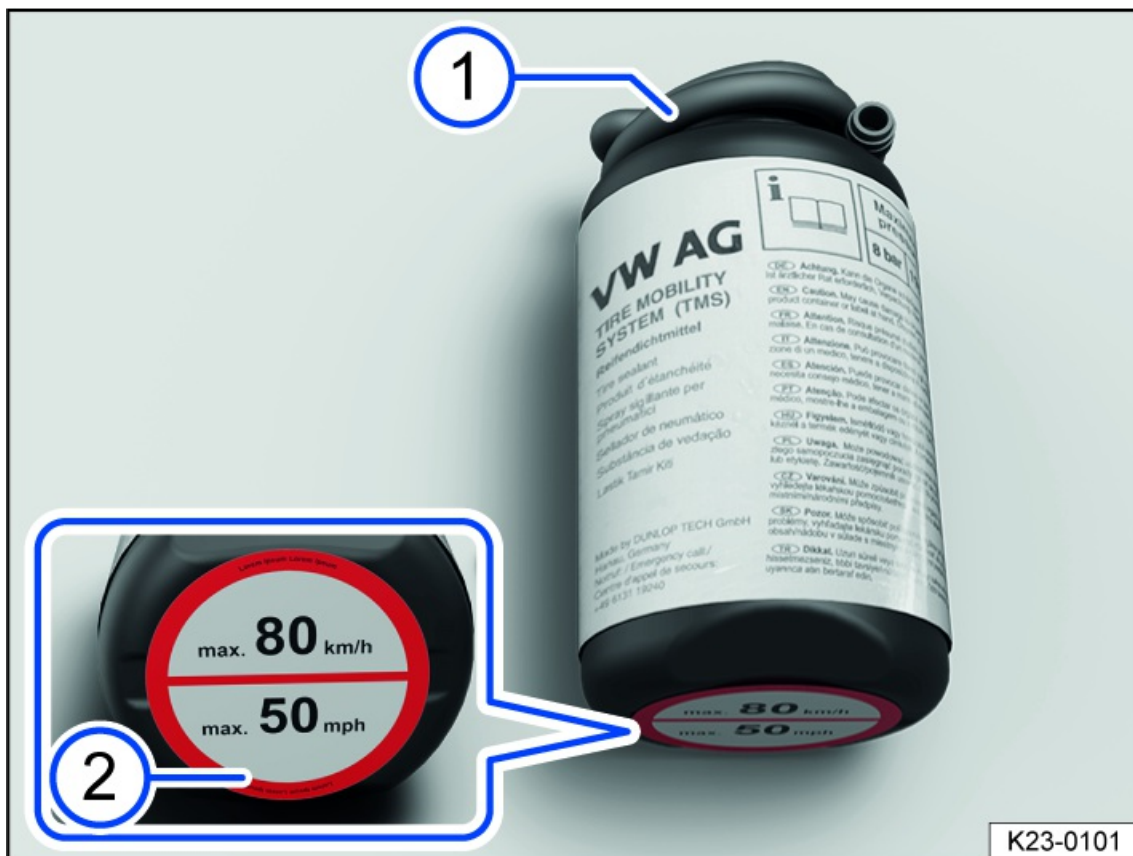
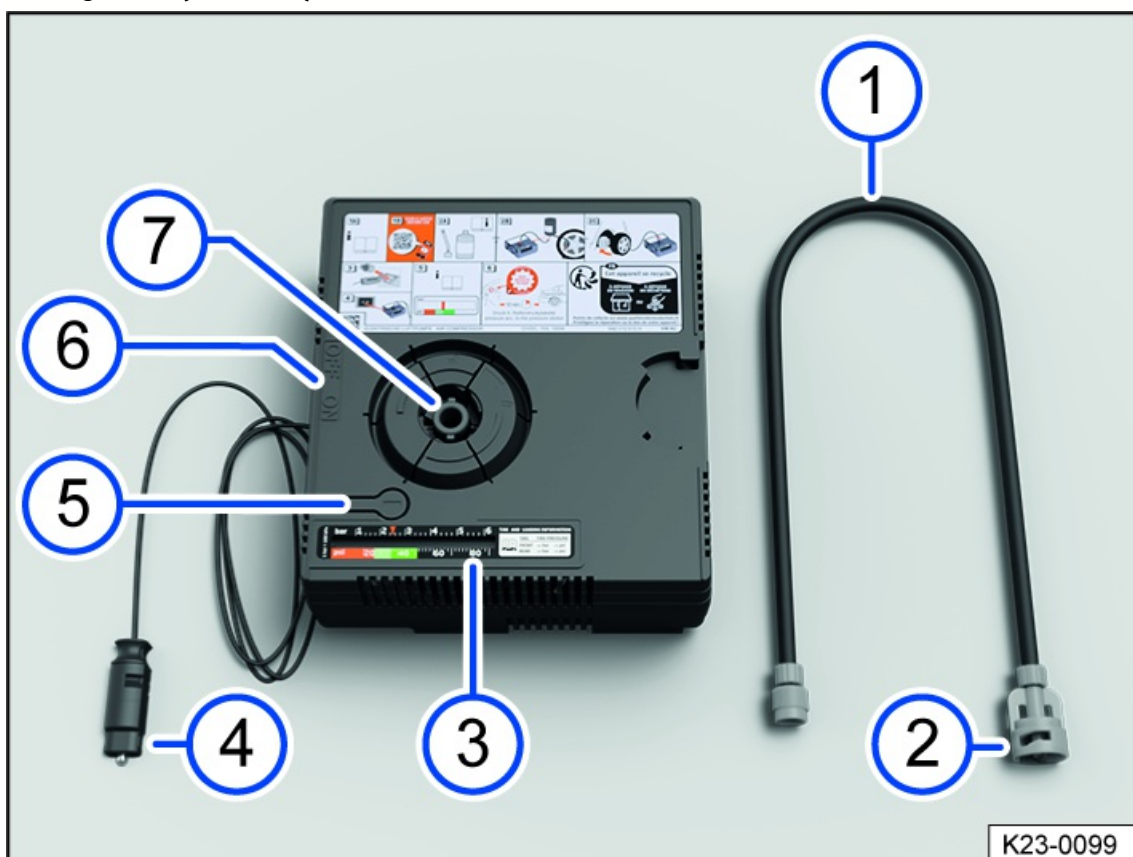
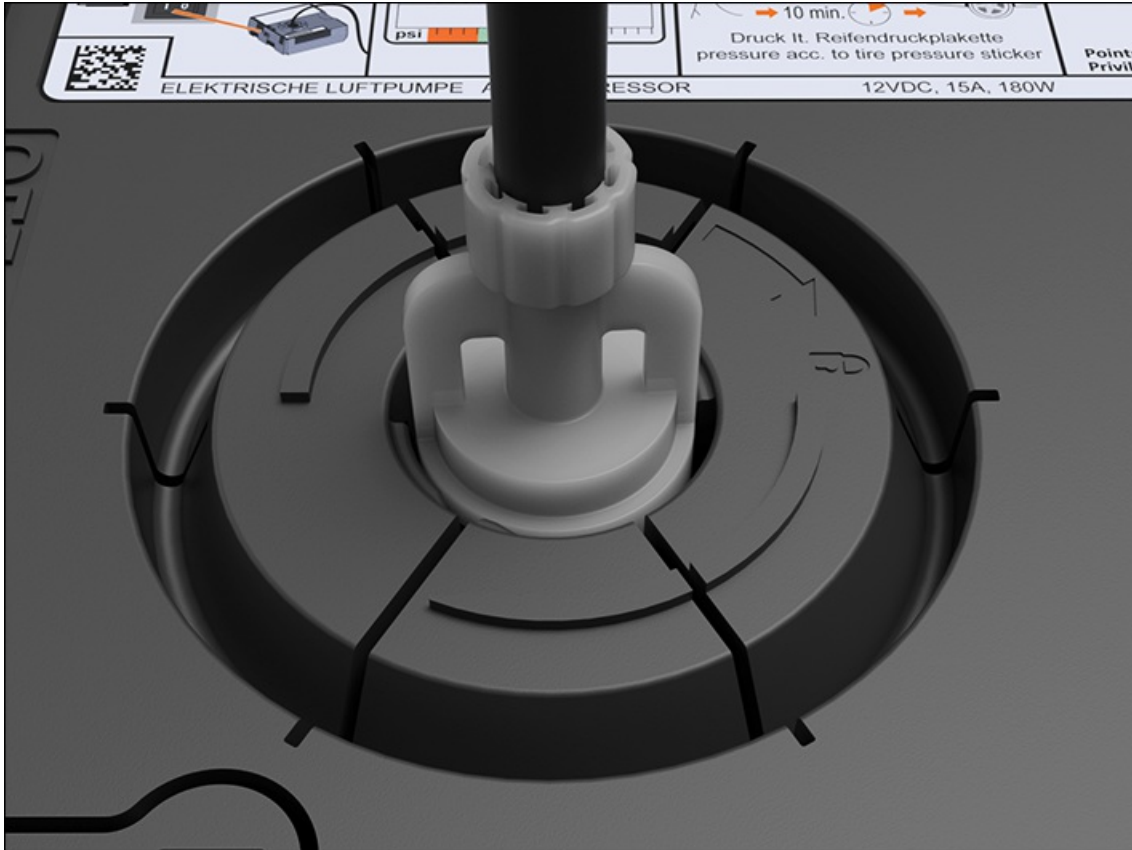
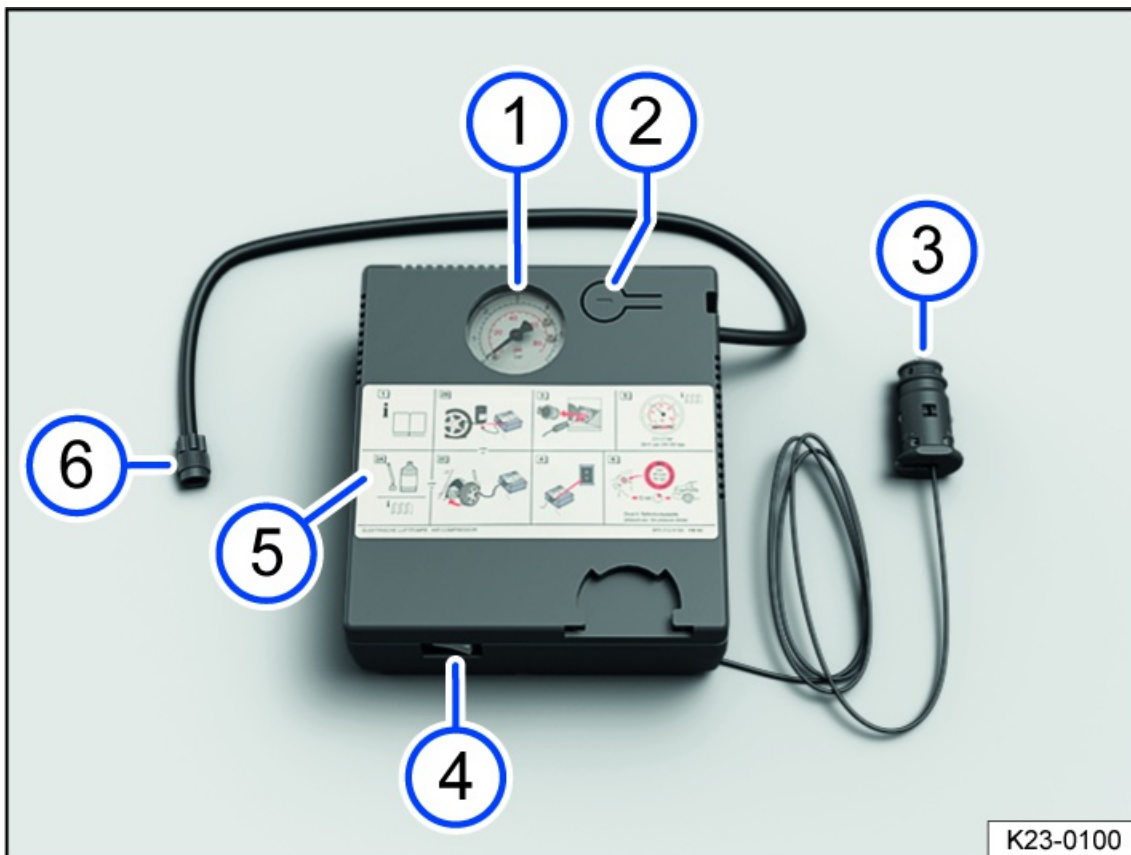

Fig. 188 Tire filler bottle
Fig. 189 Compressor in the tire mobility set (general example).
Fig. 190 Attach the tire inflation hose.
Fig. 191 Compressor in the tire mobility set (general example).
1. Remove the sticker from the tire inflation bottle fig. 188 and affix it on the instrument panel within the driver's field of vision.
3. Shake the tire inflation bottle fig. 188 vigorously back and forth a few times.
4. Remove the tire inflation hose fig. 189① from the rear of the compressor.
5. Insert the tire inflation hose fig. 189① with the wing nut ② into the holder for the tire inflation hose ⑦ so that the wing nut points to  fig. 190.
6. Turn the wing nut fig. 189② clockwise until the wing nut points to  fig. 190.
7. Screw the compressor tire inflation hose fig. 189① securely onto the tire inflation bottle fig. 188 valve.
8. Screw the tire inflation hose of the tire inflation bottle fig. 188① securely onto the tire valve.
9. Hold the bottle upside down and fit the top of the tire inflation bottle into the notch on the compressor fig. 189.
10. Place the compressor fig. 189 together with the tire inflation bottle fig. 188 on an even surface.
12. Insert the 12-volt plug *fig. 189* ④ into a 12-volt-socket in the vehicle ⇒ *Sockets in the vehicle*.
13. Switch the compressor on with the ON and OFF switch *fig. 189* ⑥.
1. Remove the sticker from the tire inflation bottle *fig. 188* and affix it on the instrument panel within the driver's field of vision.
3. Shake the tire inflation bottle *fig. 188* vigorously back and forth a few times.
4. Screw the compressor tire inflation hose *fig. 191* 6 securely onto the tire inflation bottle *fig. 188* valve.
5. Screw the tire inflation hose of the tire inflation bottle *fig. 188* 1 securely onto the tire valve.
6. Hold the bottle upside down and fit the top of the tire inflation bottle into the notch on the compressor *fig. 191*.
7. Place the compressor *fig. 191* together with the tire inflation bottle *fig. 188* on an even surface.
9. Insert the 12-volt plug *fig. 191* 3 into a 12-volt-socket in the vehicle ⇒ *Sockets in the vehicle*.
10. Switch the compressor on with the ON and OFF switch *fig. 191* 4.
2. Screw the tire inflation hose of the compressor *fig. 189* 1 or *fig. 191* 6 firmly onto the tire valve.
3. Read the tire pressure on the tire pressure gauge *fig. 189* or *fig. 191* .